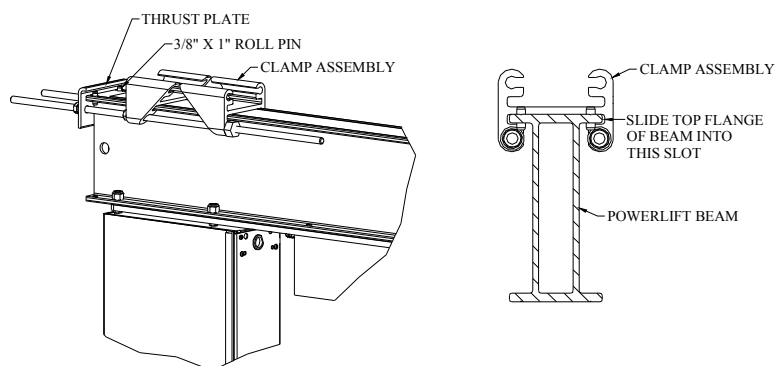

Figure 2: Beam Clamp Assembly
3. Slide clamp assembly over top flange of PowerLift beam until the thrust plate is against the end of the beam. (See Figure 2)
4. Drive (2) 3/8" x 1" roll pins into the two holes at the end of the top flange of the beam.